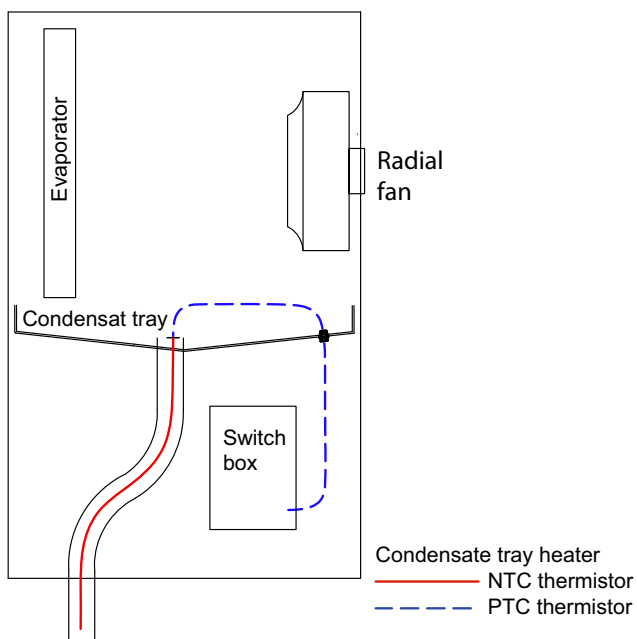

Fig. 1.9:
- 2) Install the supplied condensate drain heater (see Fig.1.9 on pag. 3 )